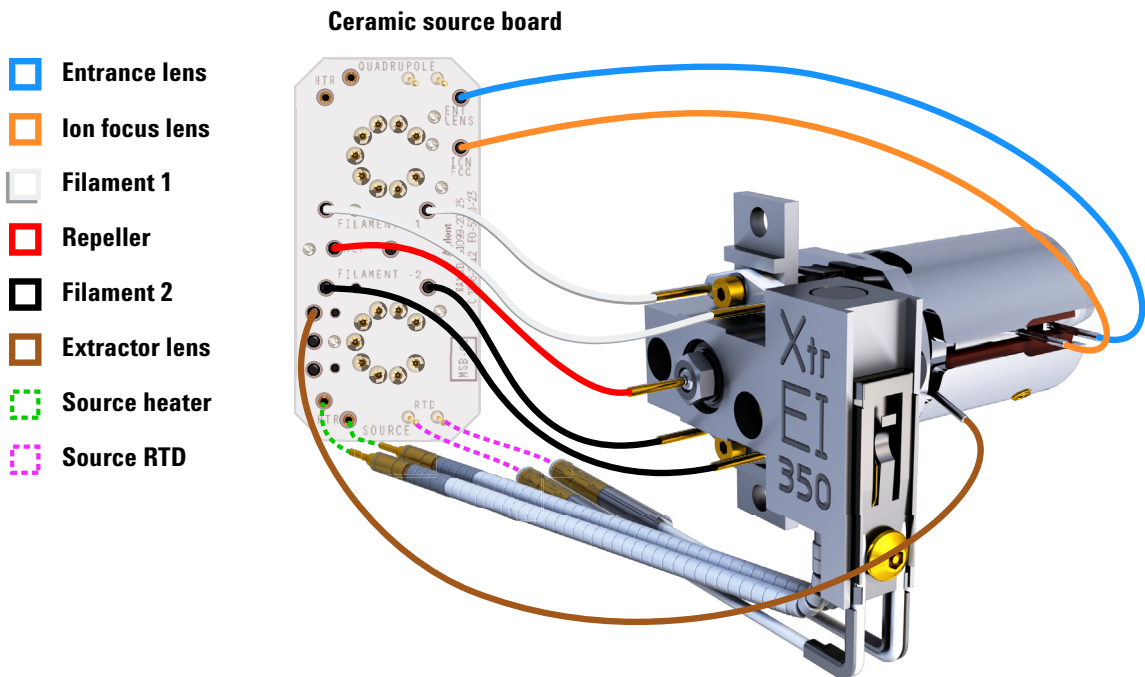

Figure 55 Wiring for the EI XTR Source
- 1 Use tweezers or needle nose pliers to connect/disconnect the ceramic source board wire leads at the source connectors. (See Figure 55.)